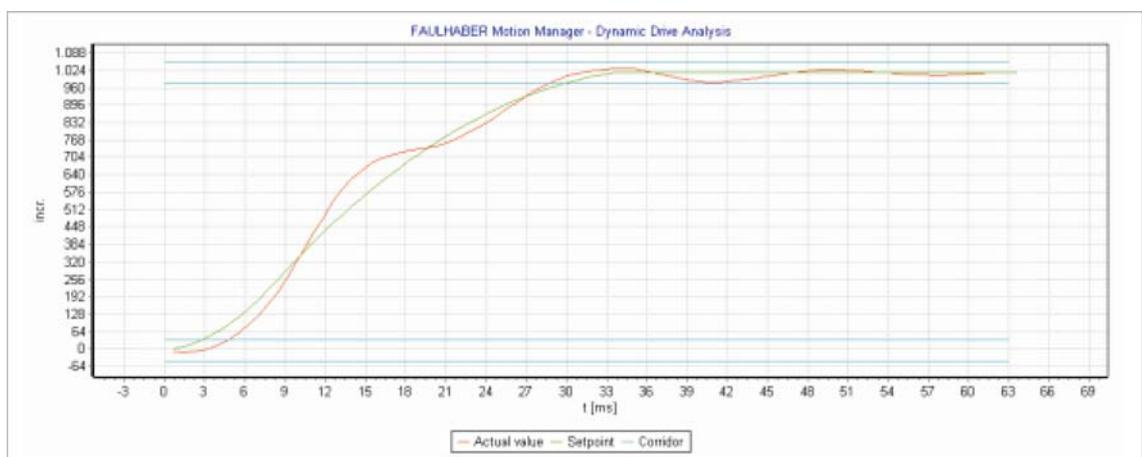

Fig. 6: Expected tuning results with velocity feedforward control
✎ The following tuning results are expected (see Fig. 6):
- c) Set the current feedforward control slider (8) to 80...100%.
- ✎ The following tuning results are expected (see Fig. 6):